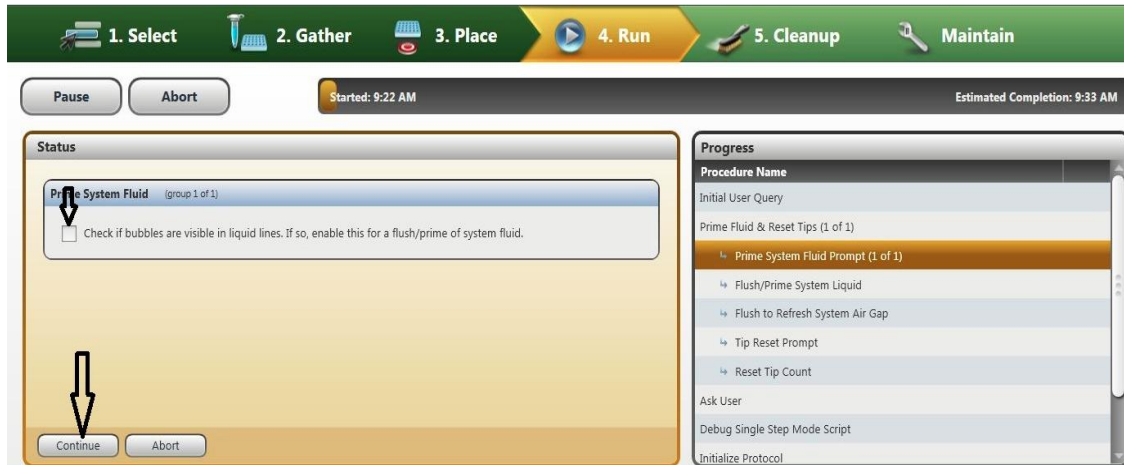

Figure 18: Capillary line bubble elimination step
4.11. The next window will appear as illustrated in Figure 18. If the user is the first person to use the instrument in the day, it is necessary to flush the lines with water and also to ensure that there are no bubbles present in the capillary lines. Click the "Check if bubbles are visible in liquid lines. If so, enable this for a flush/prime of system fluid (a) and ensure the 'Prime System Fluid Prompt' is highlighted. Note the arrows in Figure 18 as indicators of the correct steps to follow. Click 'Continue' icon once ready (b) to proceed to the next step.